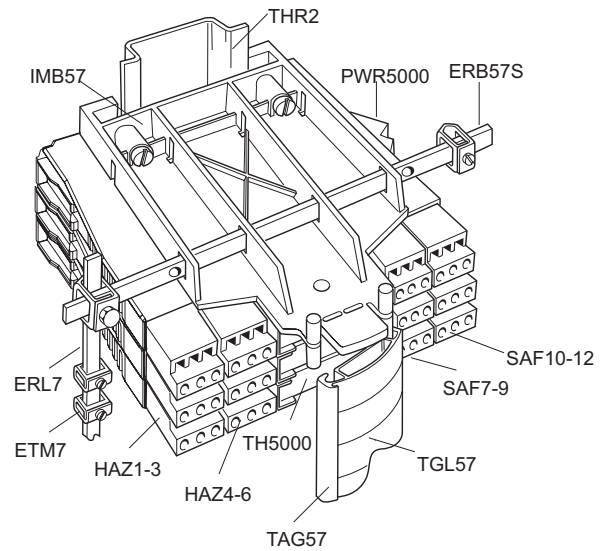

Figure 4.4: Mounting details
*Where the earth rail is required to be positioned at a lower height and to allow access to the IMB57 mounting screws, the straight earth-rail bracket ERB57S can be inserted in the lower slot, but only **after** insulating mounting blocks IMB57 are clamped to the DIN rail. This may not be possible if, for example, trunking is fitted. In this case, fit offset earth-rail bracket ERB570 (see figure 4.4 & 4.10) in the upper slot: the mounting blocks can then be fitted in a restricted space with this bracket already fitted.*